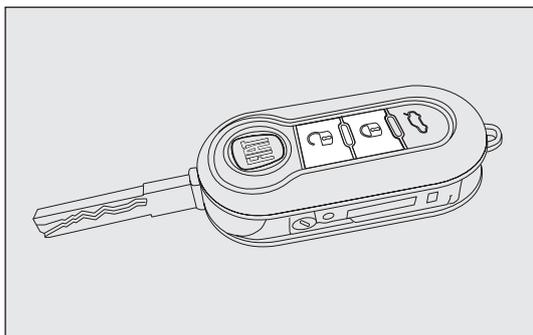
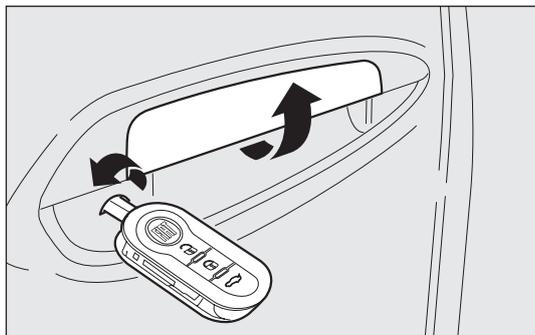
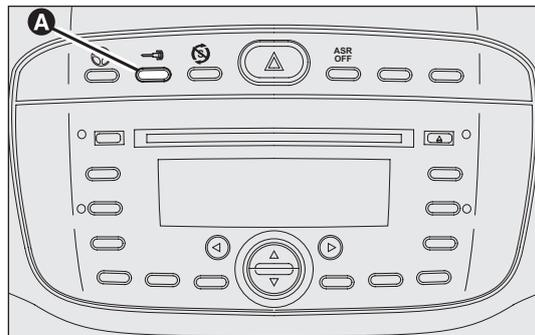

fig. 78
fig. 79
fig. 80
With the doors closed, press button  on the remote control fig. 78 or insert the key in the driver-side door and turn clockwise fig. 79. The locking of the doors is signalled by the LED on button A-fig. 80 flashing once. The doors can be locked only if they are all shut. If one or more doors are open after pressing button  on the remote control fig. 78, the direction indicators and the LED on the button A-fig. 80 flash quickly for approximately 3 seconds.
If one or more doors are open turning the key, only the button LED A-fig. 80 flashes. If the doors are closed but the boot is open, the doors are locked: the direction indicators (only when locking is carried out using button  fig. 78) and the LED on button A-fig. 80 flash quickly for approximately 3 seconds.
With this function on, you can still unlock the other doors by pressing button A-fig. 80 on the central control panel.
Double-tapping button  on the remote control fig. 78 activates the dead lock device (see “Dead lock”).
Briefly press button  fig. 78 to unlock the doors remotely, turn on the ceiling lights for a limited period and double flash the direction indicators, or insert the key into the driver’s door lock and turn it anti-clockwise as shown in fig. 79.
Press button A-fig. 80 to lock/unlock all doors. The button has an LED that indicates whether the doors are locked or unlocked. When the doors are locked, the LED is on and pressing the button brings about central unlocking of all the doors and turns off the LED. When the doors are unlocked, the LED is off and pressing the button brings about central locking of all the doors. The doors will be locked only if all the doors are properly shut.
it will not be possible to unlock them by pressing button A-fig. 80 on the dashboard.
- locking/unlocking button A-fig. 80;
The dead lock device is automatically activated on every door when you double-tap button  on the remote control fig. 78.
Device activation is indicated by 3 flashes of the direction indicators and the flashing of the LED on button A-fig. 80 on the dashboard.